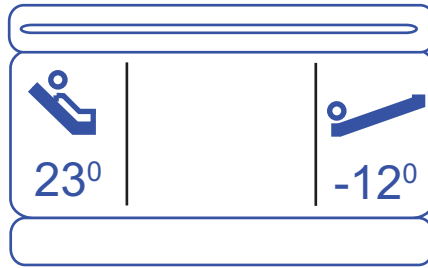

Figure 41 – Status screen
- The status screen shows the current Fowler angle and current Trendelenburg angle values by default (Figure 41).